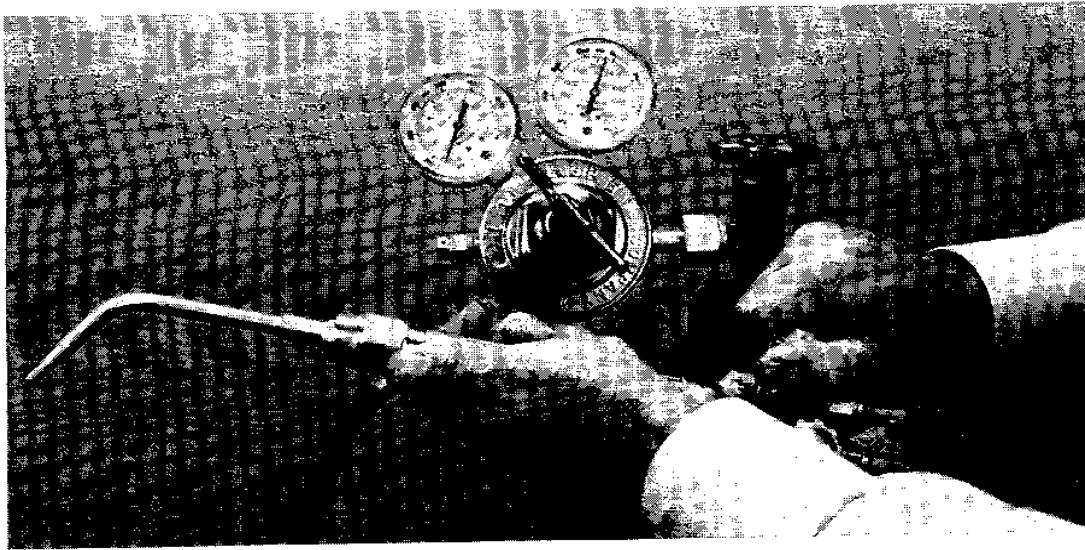

Figure 16, Setting Operating Pressures
3. Open the oxygen valve on the torch handle. Adjust the oxygen regulator to the desired delivery range (see Figure 16, page 25).